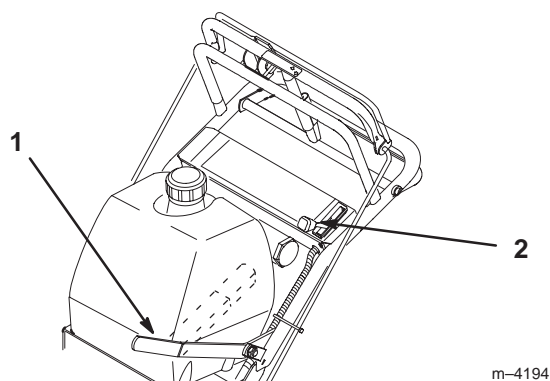

Figure 16
1. Move the throttle lever to slow (Fig. 16).
2. To stop the engine pull the throttle all the way back, to stop (Fig. 16).